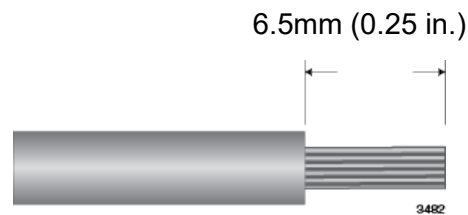

Figure 54. Stripping an Alarm Wire
1. Strip 6.5mm (0.25 in.) of insulation from the end of a wire with a wire insulator stripper. Use 24 to 18 AWG stranded wires properly rated for the installation site. Refer to Figure 54.